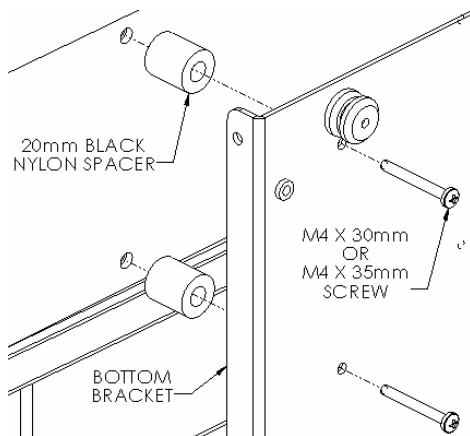
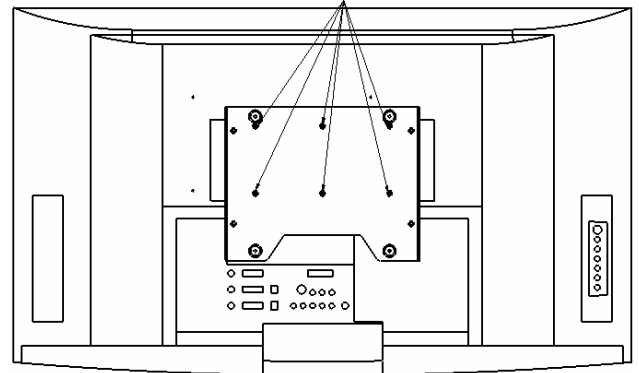

Figure 12
Figure 13
- Attach bottom bracket to back of display using the M4 x 30mm or M4 x 35mm screws depending on maximum screw depth of screen (see Figure 12 & Figure 13). If possible, use the 35mm screws. If the screen has shallow mounting holes, the 30mm screws should be used in order to prevent damaging the inside of the screen. Do not over tighten screws.